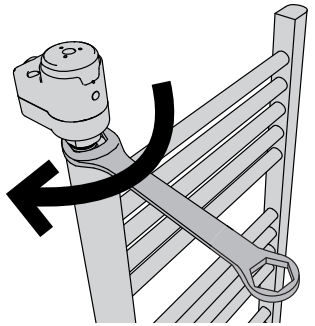

Fig. 6
5. Then using a 27 mm spanner screw the ATLANTIS heating element until the last nipple thread turn and if necessary continue in order to have the regulating box facing forward (Fig. 6).